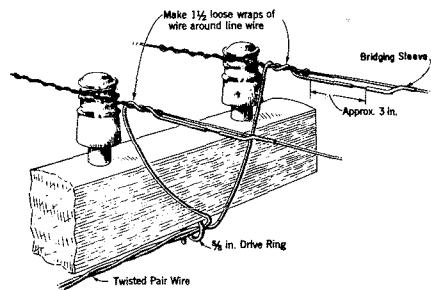

Fig. 10 — Where Line Wires Are Tied to Pin-Type Insulators
5.01 In general, connect twisted pair wire to open wire attached to glass insulators or deadend brackets as illustrated in Fig. 10, 11, and 12.